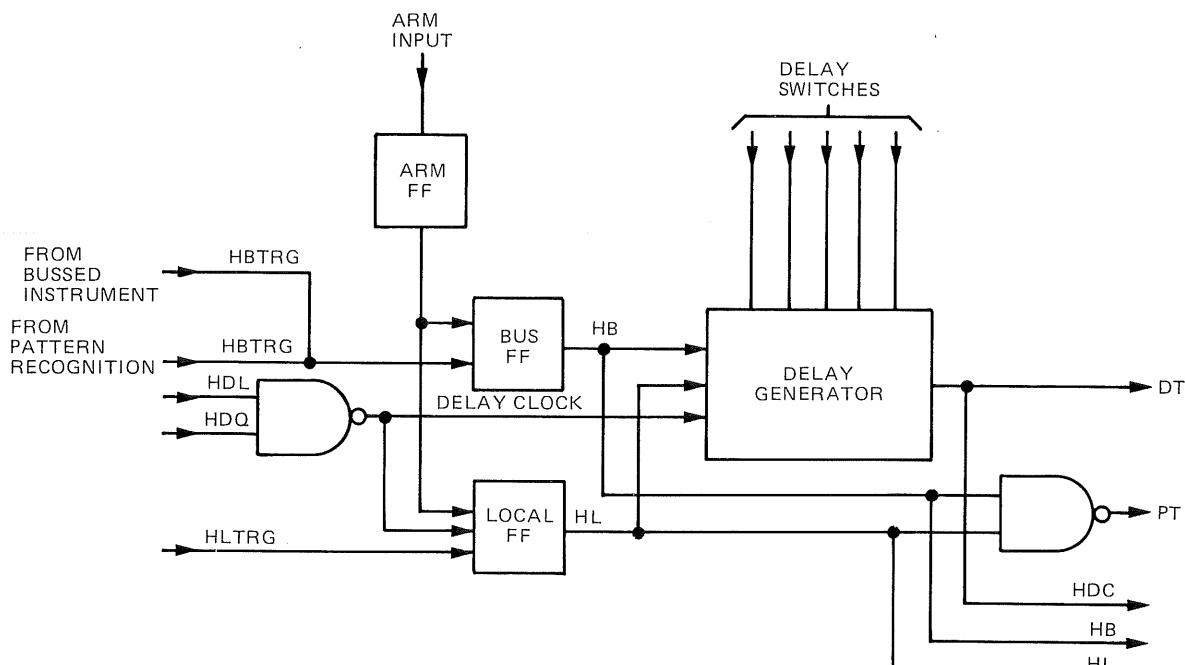

Figure 4-11. Digital Delay/Trigger Generator Block Diagram
**4-47. DIGITAL DELAY AND TRIGGER GENERATOR.** (See figure 4-11.) Once pattern recognition occurs, HLTRG is clocked into the local flip-flop. If the BUS trigger mode is selected, the rising edge of HBTRG resets the bus flip-flop. When both flip-flops are reset, HB and HL generate the pattern trigger (PT) and enable the delay generator. If the delay generator is set to zero, PT and DT (delayed trigger) are generated when the local and bus flip-flops are set. For delays other than zero, PT goes HI when the bus and local flip-flops are reset and remains HI while the delay generator is running. When the delay has timed out, HDC occurs. DT is generated by HDC•HB•HL, and PT is terminated. The clock for the delay generator and local flip-flop is qualified so that a trigger is recognized only when qualifier conditions are met.